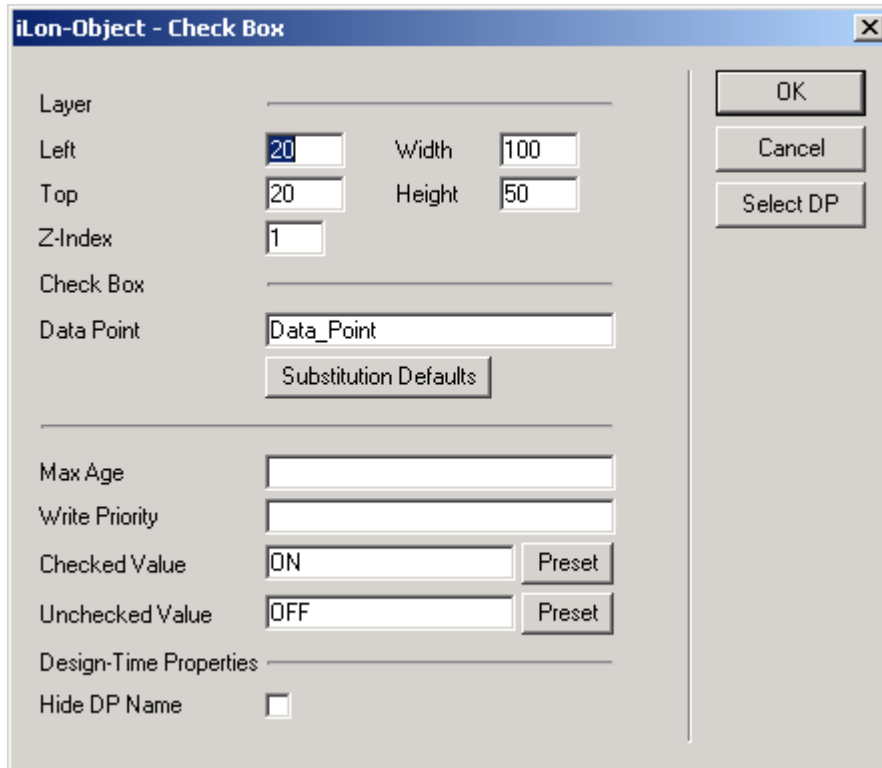

Figure 13.44 Check Box Dialog
1. Open a draft of a Web page, click the *iLON* button, and then select **Check Box**. An icon is inserted on the Web page where the check box will be displayed, and the dialog shown in Figure 13.44 opens.